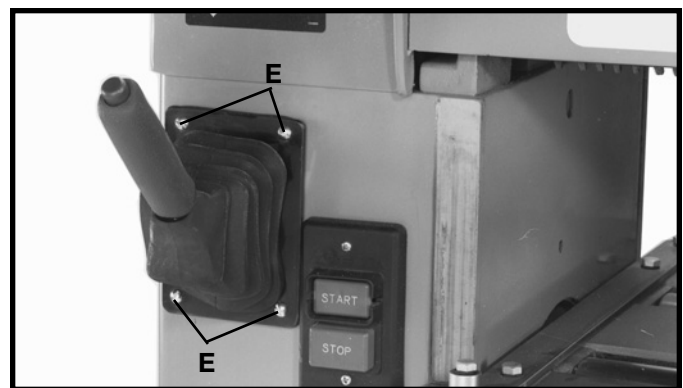

Fig. 31
3. Remove four screws (E) Fig. 31, which hold engagement lever boot (F) to the machine.